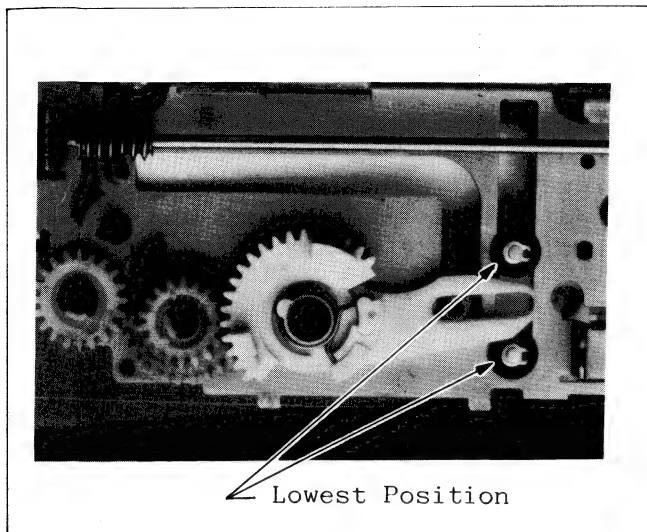

Fig. M59 Cassette Down Condition
- b) Then remove the worm wheel Unit and confirm that the Slide Lever (R) is in full down condition as shown in Fig. M59.